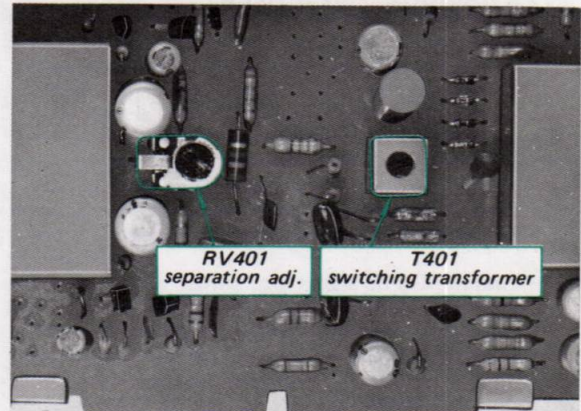

Fig. 3-9. Parts location (1)
2. Precisely tune the set to the S.S.G's carrier frequency then turn the top core of switching transformer T401 (see Fig. 3-9) to obtain maximum output at the left channel. Note that this adjustment is closely related to stereo distortion.
5. The output-level to residual-level ratio represents the separation. Adjust separation adj. control RV401 (see Fig. 3-9) for minimum residual level. Check the right channel for separation. Usually, about an 8 to 9 dB difference in channel separation exists. Re-adjust RV401 for minimum difference between left- and right-channel separation. While doing this, remember that the output-level also changes according to the setting of RV401.